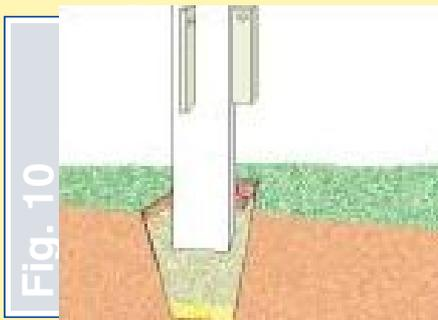
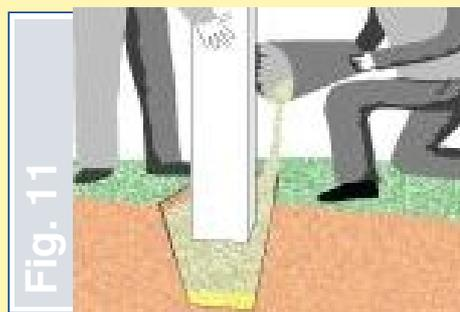

Fig. 10
Fig. 11
- place posts vertically (check by means of a mason's level putting it on two perpendicular walls of a post) - Fig. 10, and then fill the hole and inside of each post with sand or a concrete mixture (when posts are filled with sand, corner and gate posts and every third post should be filled with concrete). Posts may be filled with sand or concrete up to 1/3 of their height (while gate posts should be additionally provided at least with two reinforced bars of diameter 10-12 mm in corners of a post) - Fig. 11, 12